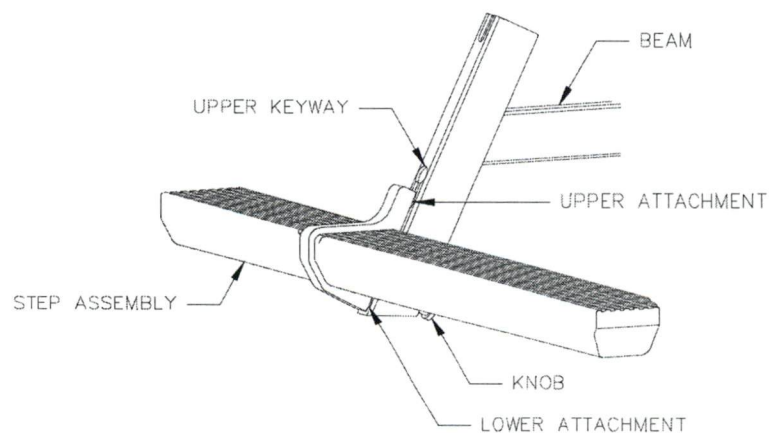

Figure 2 – Step Attachment
1. Step Installation – Refer to Figure 2.
2. Step Removal – Refer to Figure 2.